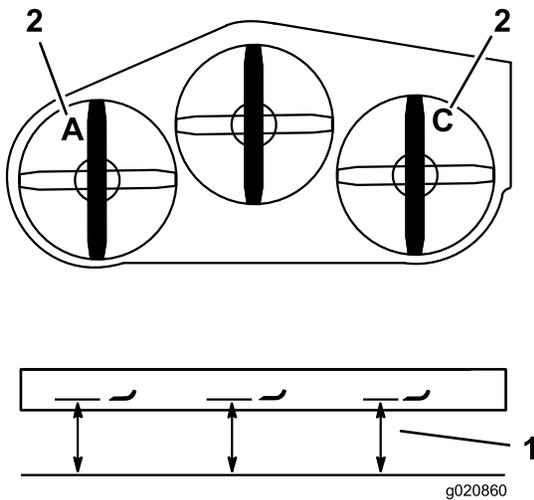

Figure 86
4. Measure the left blade at the **A** location, from a level surface to the cutting edge of the blade tip and record this measurement (Figure 86).
5. Measure the right blade at the **C** location, from a level surface to the cutting edge of the blade tip and record this measurement (Figure 86).
3. Measure the right blade at location **C**, from a level surface to the cutting edge of the blade tip and record this measurement (Figure 86).